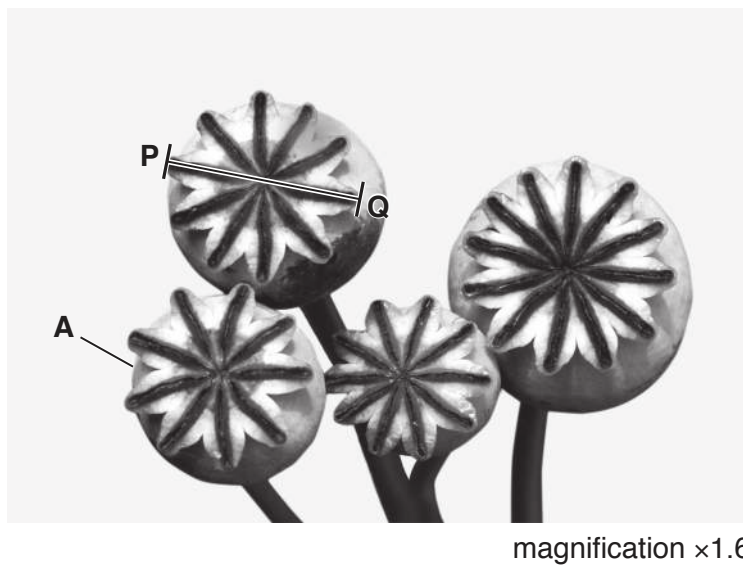

Fig. 2.1
- 2 (a) Fig. 2.1 is a photograph showing four seed heads from a poppy plant.
- (ii)** Measure the length of line **PQ** on Fig. 2.1. Include the unit.